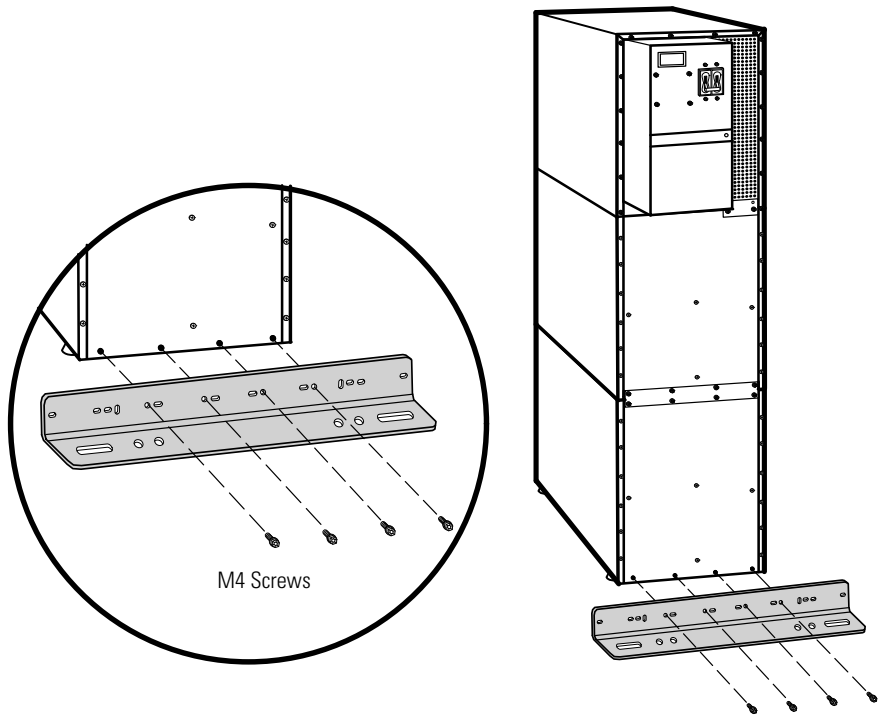

Figure 31. Stabilizing Bracket with One Cabinet
- For one cabinet, see Figure 31.